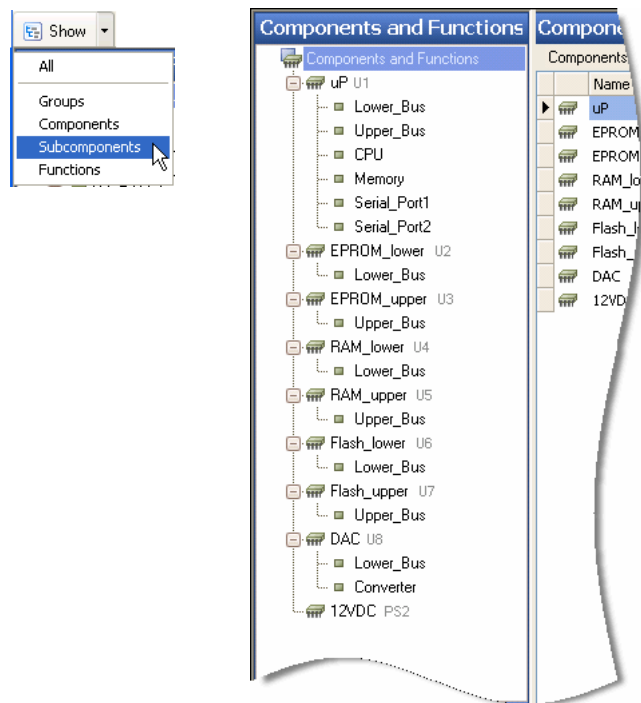

Figure 23 All subcomponents in the explorer pane
- 4 Repeat steps 1 and 2 for the remaining bus subcomponents in Table 3. Figure 23 shows the explorer pane with all subcomponents added.